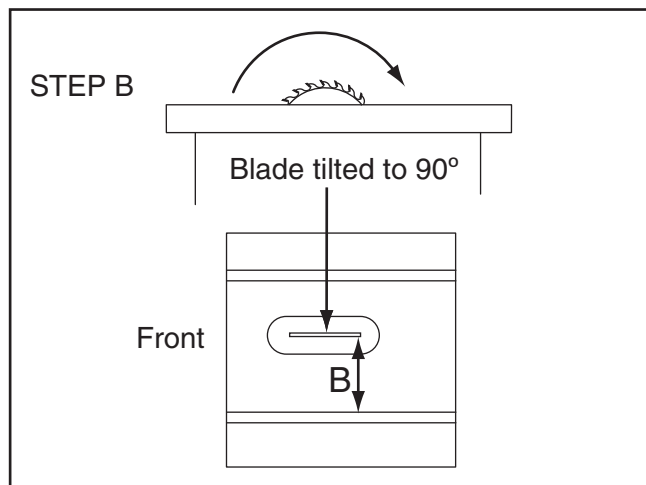

Figure 112. Measuring distance from miter slot to carbide tip on opposite side of table insert.
6. Compare distance from marked blade tip to miter slot, as shown in **Figure 112**.